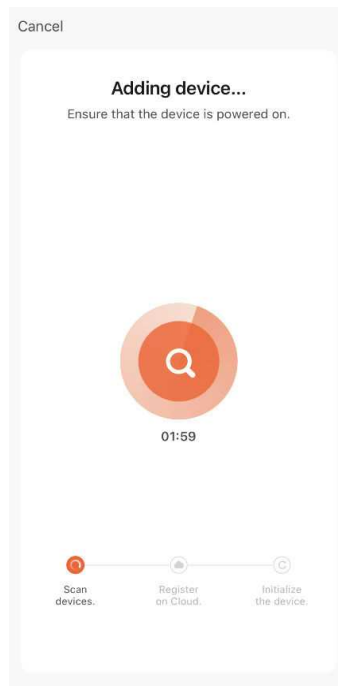
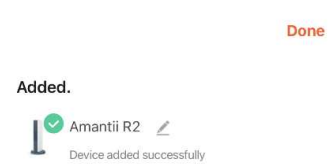

FIG.6
FIG.7
4. The APP will scan (FIG.6) and add the fireplace to APP (FIG.7) automatically. Please make sure the Wi-fi account and password you set are correct and Wi-fi signal is good.
5. Touch "Done" to finish Wi-fi setting.(FIG.7)